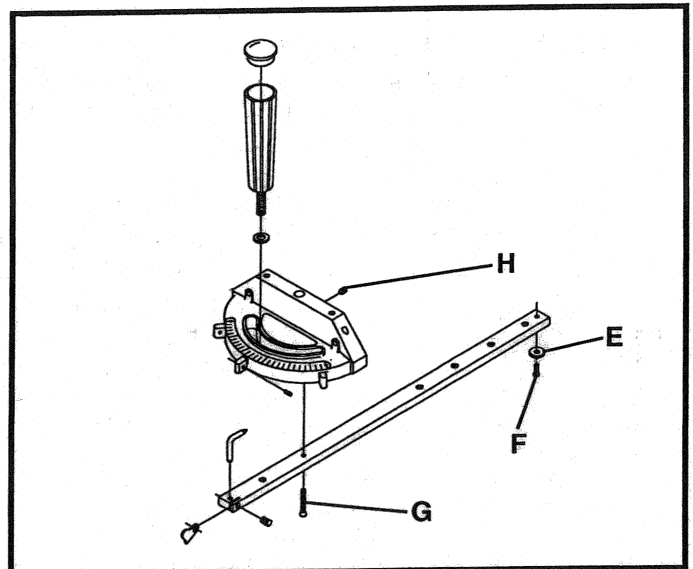

Fig. 75
The miter gage is equipped with a special washer (E) Fig. 75, and flat head screw (F), which are to be assembled to the end of the miter gage bar.
The head of the miter gage pivots on a special tapered screw (G) that fastens the head to the miter gage bar. If the miter gage head does not pivot freely, or pivots too freely, it can be adjusted by loosening set screw (H) Fig. 75, and turning the screw (G) in or out. Be certain to tighten screw (H) after adjustment is made.